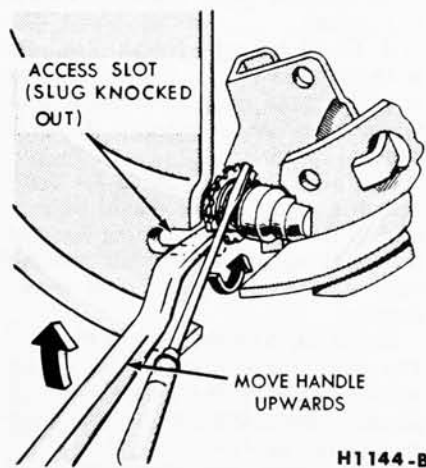

FIG. 12—Backing off Brake Adjustment
2. Remove the wheel cover and wheel. Remove the three Tinnerman nuts and remove the brake drum. If the brake drum will not come off easily, insert a narrow screwdriver through the brake adjusting hole in the carrier plate, and disengage the adjusting lever from the adjusting screw. While holding the adjusting lever away from the adjusting screw, back off the adjusting screw with the brake adjusting tool (Fig. 12). **Back off the adjustment only if the drum cannot be removed. Be very careful not to burr, chip, or damage the notches in the adjusting screw; otherwise, the self-adjust-**